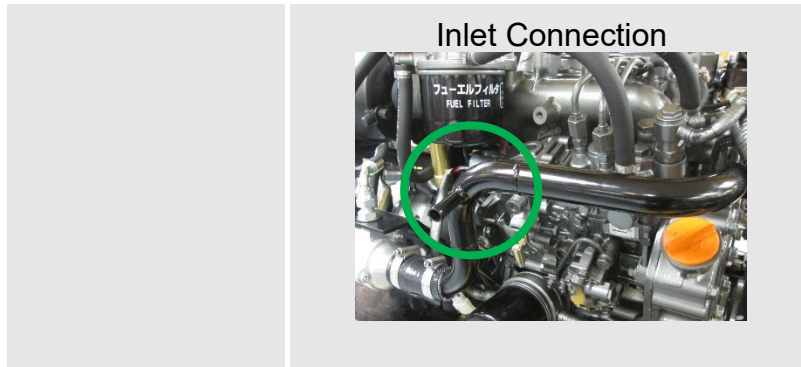

Figure 20: Calorifier Connections
- The connections for the calorifiers are shown on **(Figure 20)**.